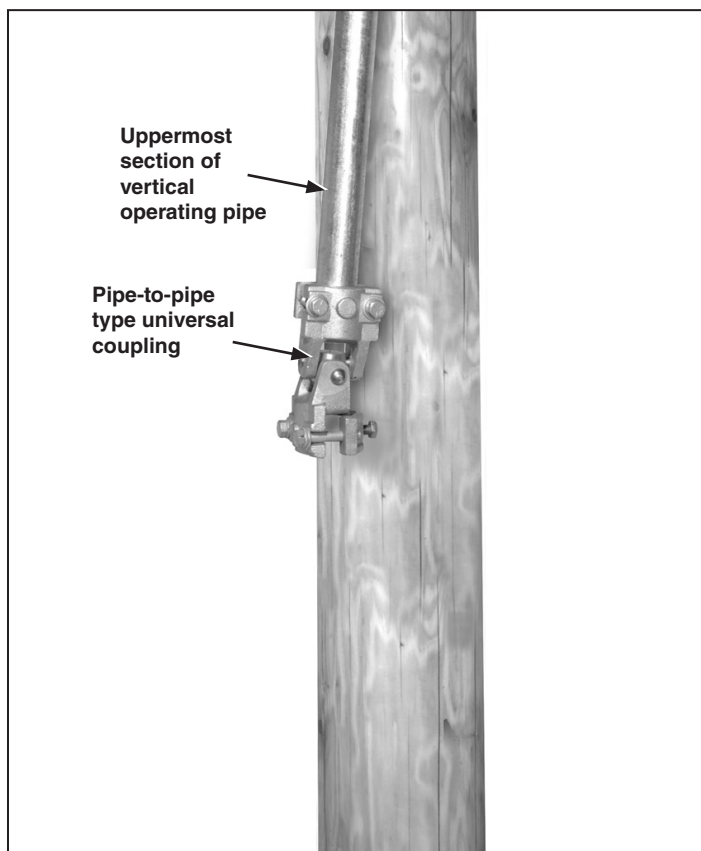

Figure 6. Attach the pipe-to-pipe type universal coupling to the lower end of the uppermost section of vertical operating pipe.
STEP 8. Attach a pipe-to-pipe type universal coupling to the lower end of the uppermost section of vertical operating pipe. See Figure 6. Back the piercing set screw out of the body of the pipe coupling before tightening the coupling clamp bolts.